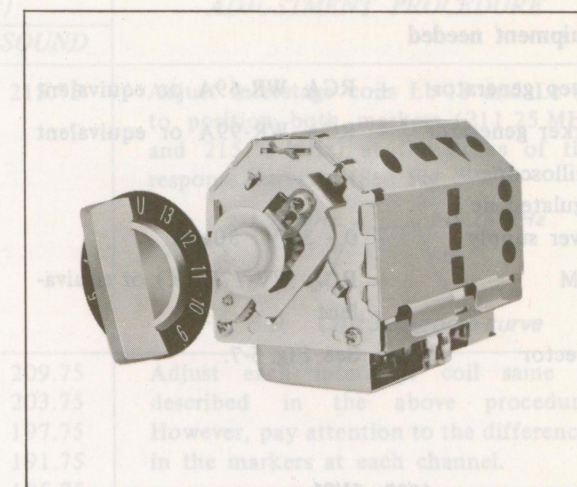

Fig. 5-4. Tuner shaft assembly removal (1)
1. Set the Channel Selector to the UHF position as shown in Fig. 5-4.